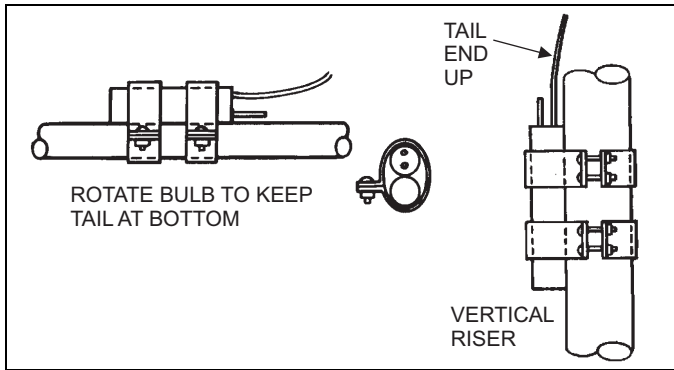

FIGURE 7: Bulb Location
- Secure the TXV bulb to the suction line with the clamp provided. Choose a horizontal location as close to the cabinet as possible, but not directly on the brazed connection joint. Refer to Figure 7.
- If the suction line is 3/4" diameter - position the bulb near the top of the copper tube as shown. If the tube is 7/8" diameter - position the bulb near the bottom of the tube. Refer to Figure 7.